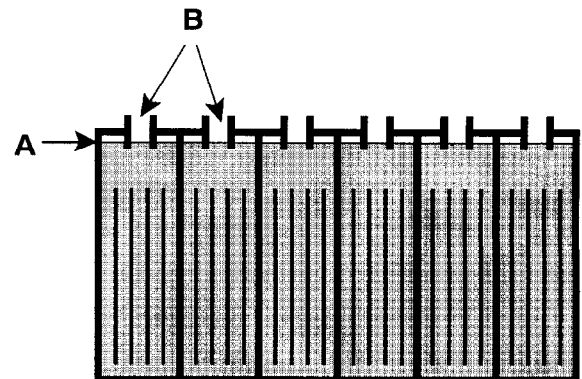

FIG. 27
2. Each week **after** charging, check electrolyte level (A) in each battery cell of all batteries. The level should reach bottom of sight tubes (B). If needed, add just enough distilled water to reach bottom of sight tubes. **DO NOT** overfill (Figure 27).